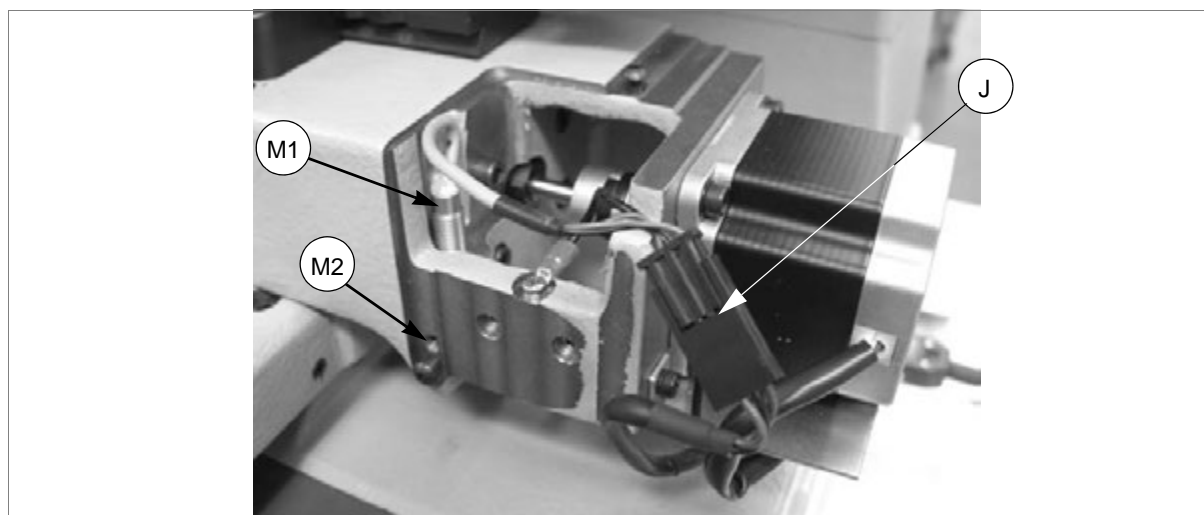

Fig. 81
- 5) disconnect the sensor connector (J) (fig. 81).